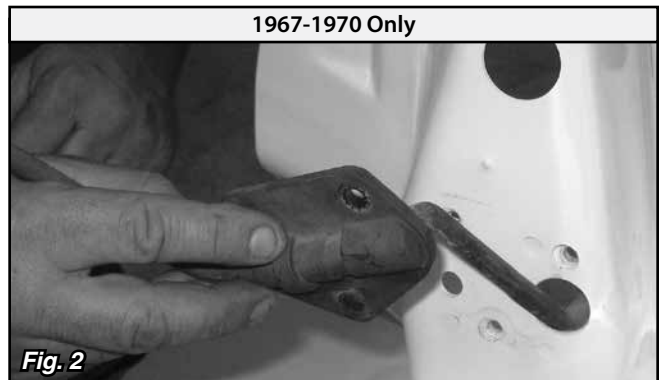

Fig. 4
**Step 6:** The Lokar Throttle Cable will be installed into an existing hole in the firewall. This hole is approximately 5" above the pedal pivot shaft and has a factory firewall pad retaining button in the hole. In some cases it might require some trimming of the factory firewall pad. Drill the existing hole to 1/2" diameter. **Fig. 4**